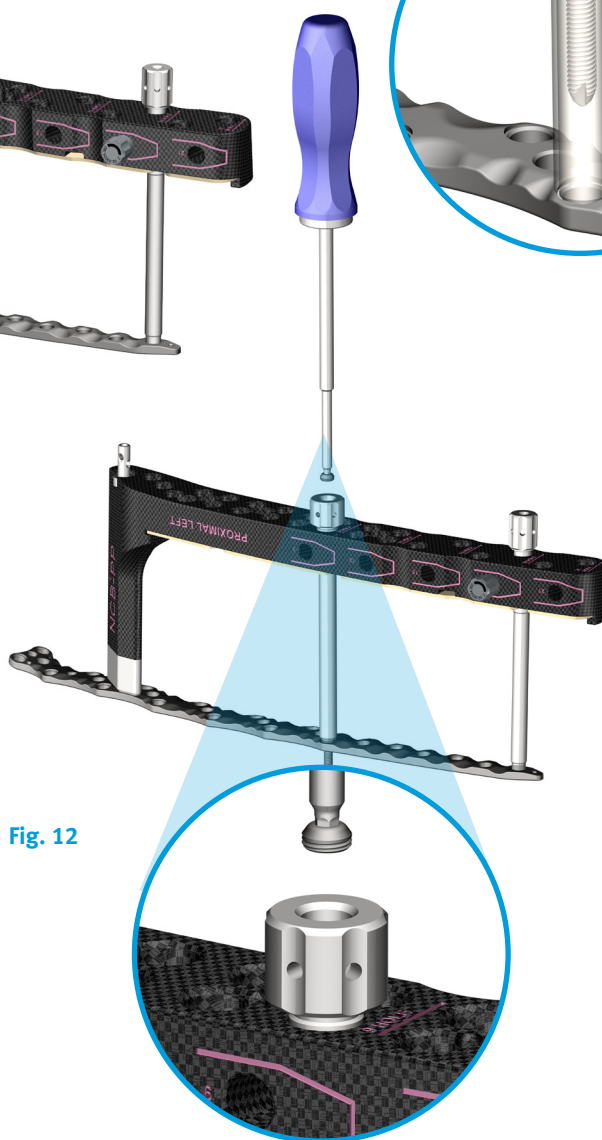

Fig. 12
7. To lock the screw, insert a Locking Cap (REF 02.03150.300) and tighten the Cap with the 6Nm Torque Limiting Screwdriver (REF 02.00024.021) until a clicking sound is heard (**Fig. 12**).